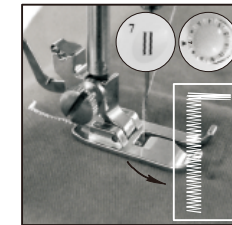

Fig.18
- (3) Choose the stitch pattern #7, turn on switch and sew on the cloth in suitable length, then turn off switch. Note that try to keep sewed stitch in straight line (Fig.18).